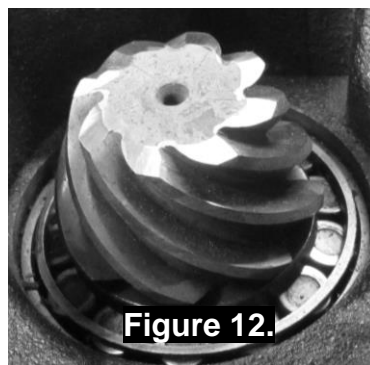

Figure 12.
- Check clearance again using a feeler gauge and remove more material if required. The modified pinion should look like figure 12..